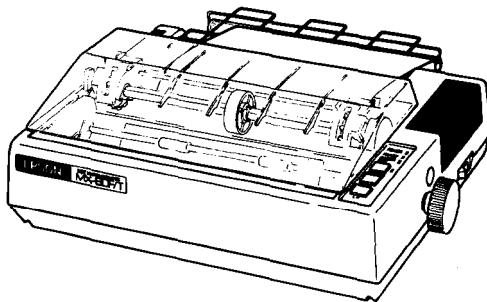

Fig. 26 Printer with Cut Paper Sheet Set Completely
STEP 8. Push the scale back into position and put the printer lid on the Printer. (See Fig. 26.)